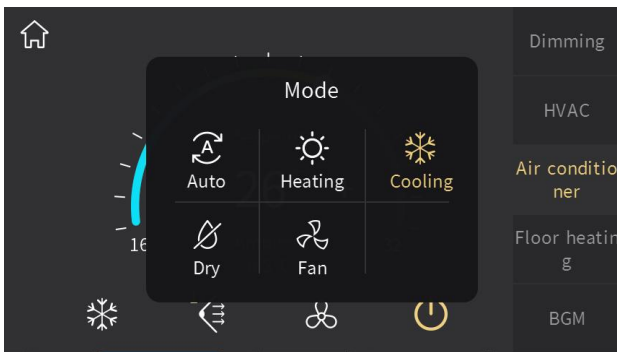
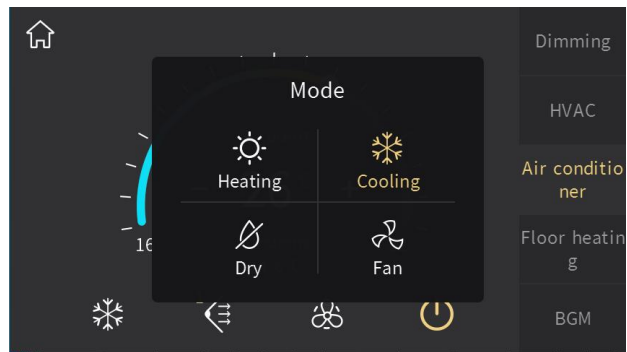

Fig.2.4.3
Fig.2.4.4
- ⑦ **Enter the mode setting by touching this icon, and will pop up a sub-window shown as Fig.**
2.4.3 and Fig.2.4.4;
Auto mode set to be disable or enable by parameter configuration. When disable, there will be no Auto item shown on the interface, as shown in Fig.2.4.4; when enable, there will be an Auto item shown on the interface, as shown in Fig.2.4.3.